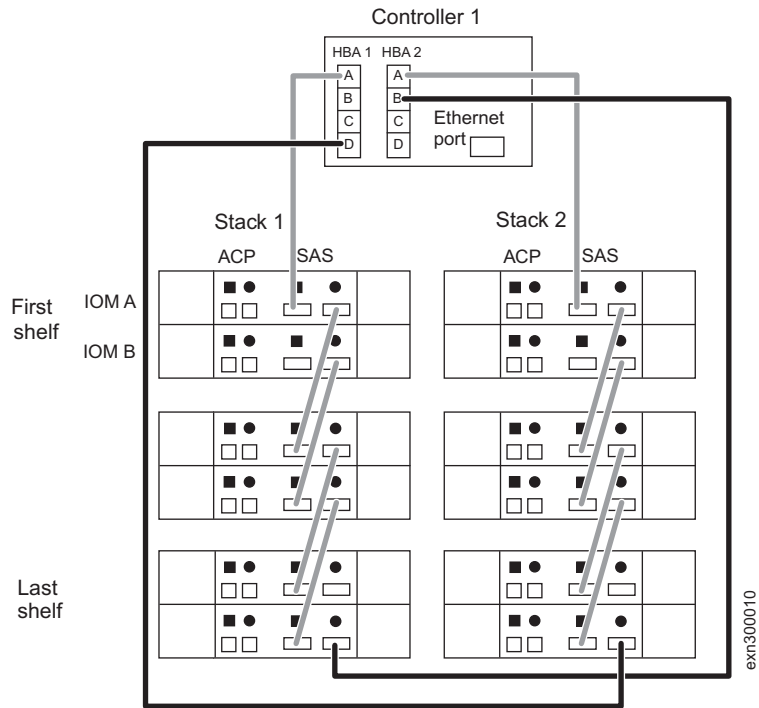

Figure 11. Cable the last shelf connections
3. Cable the last shelf connections as shown in Figure 11 on page 9.